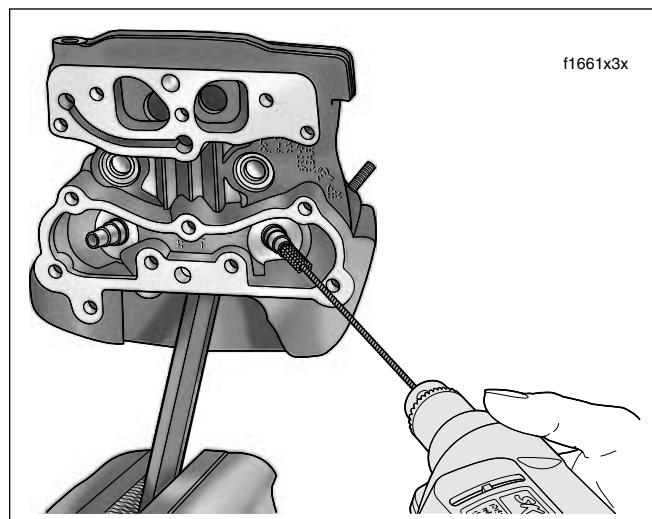

Figure 3-21. Hone Valve Guide Bore
- d. See Figure 3-21. Activating the drill, move the entire length of the finishing stone arrangement forward and backward through the bore for 10 to 12 complete strokes. Work for a crosshatch pattern of approximately 60°.